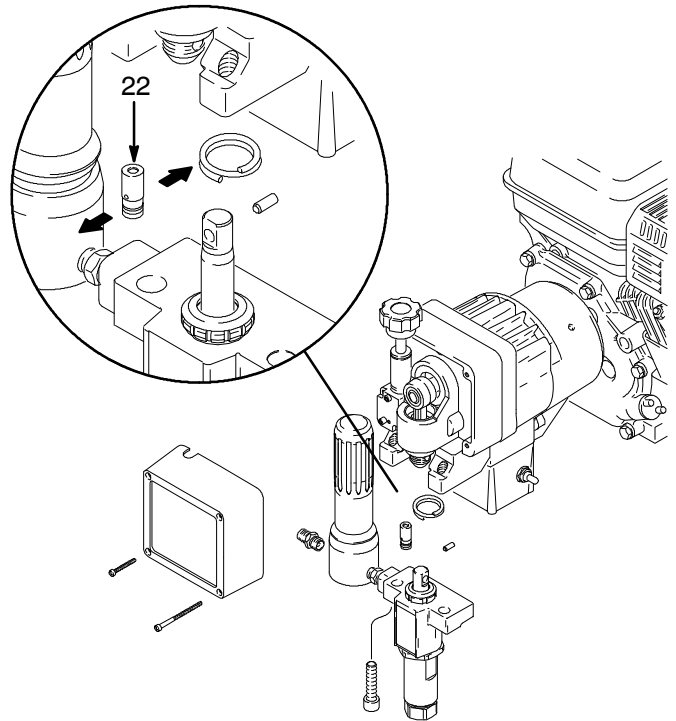

Fig. 12
NOTE: See Fig. 12 for this procedure.
2. Use a pull-twist motion to remove the transducer (22) from the pump manifold.
6. Align the holes in the transducer as shown by the arrows in Fig. 12.